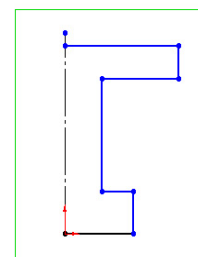

Figure 7 All line segments selected.
6. Select centerline and all other lines by making a window around the sketch as shown in Figure 7.